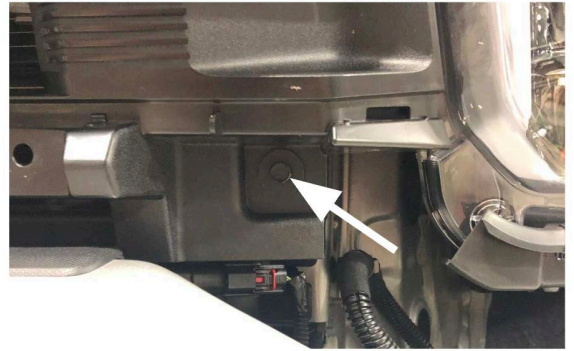

Figure 4.
4. Use a 10mm socket wrench to remove the two (2) bolts at the base of the grill. Figure 4.